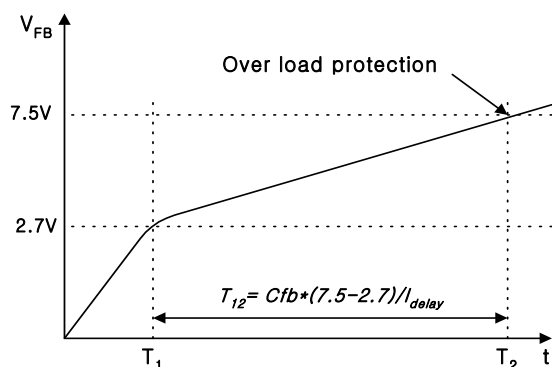

Figure 6. Over load protection
3.2 Over Load Protection (OLP) : When the load current exceeds a pre-set level for longer than pre-determined time, protection circuit should be activated in order to protect the SMPS. Because of the pulse-by-pulse current limit capability, the maximum peak current through the SMPS is limited, and therefore the maximum input power is restricted with a given input voltage. If the output consumes beyond this maximum power, the output voltage together with primary side regulation voltage decrease below the set voltage. This reduces the current through primary side regulation transistor, which increases feedback voltage (Vfb). If Vfb exceeds 2.7V, D1 is blocked and the 2uA current source starts to charge Cfb slowly compared to when the 0.9mA current source charges Cfb. In this condition, Vfb continues increasing until it reaches 7.5V, and the switching operation is terminated at that time as shown in figure 6. The delay time for shutdown is the time required to charge Cfb from 2.7V to 7.5V with 2uA.